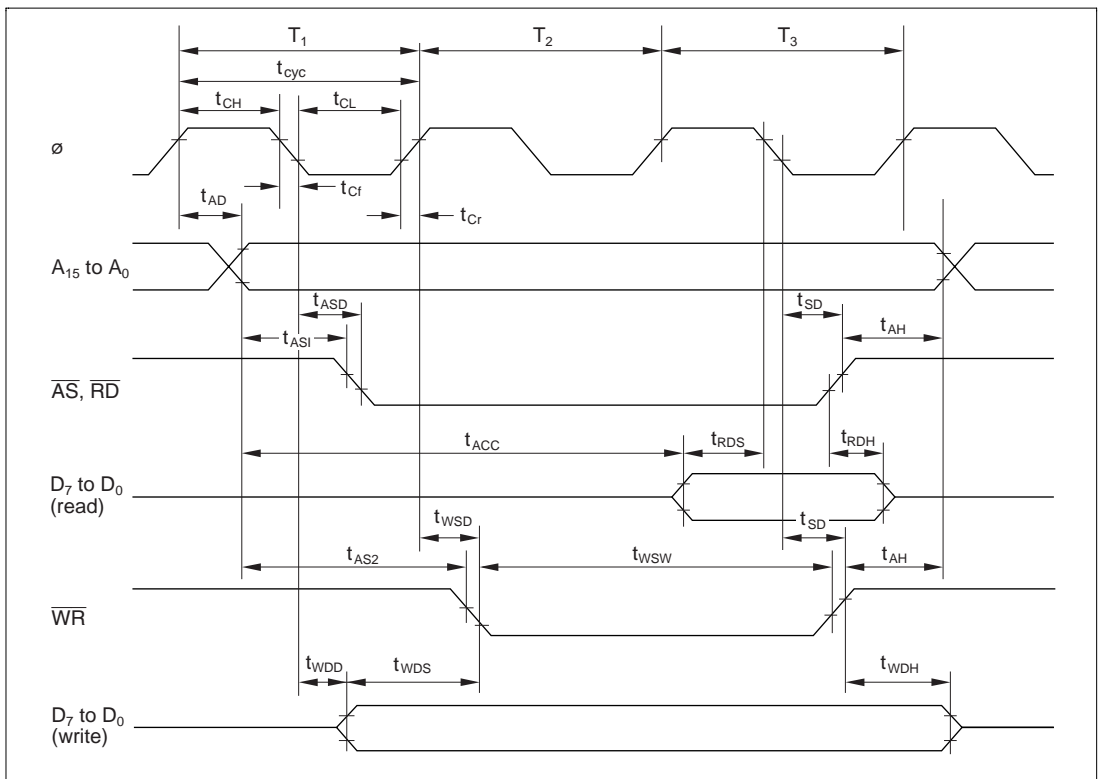

Figure 19.4 Basic Bus Cycle (without Wait States) in Expanded Modes
19.3.1 Bus Timing	Figures 19.4 to 19.5